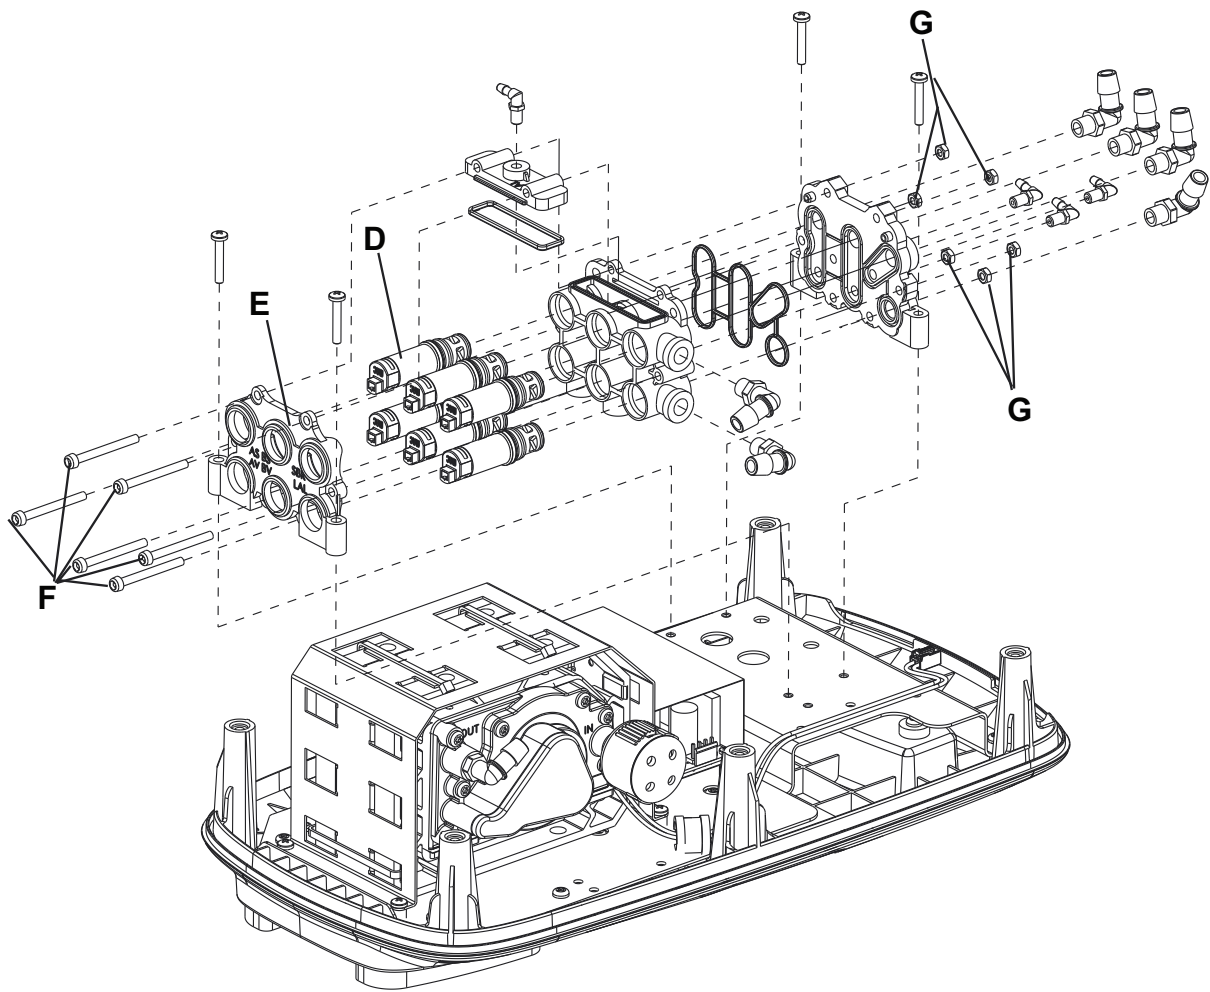

Figure 30 – Solenoid valve
2. Using a 3 mm hex driver, remove the six bolts (F) and nuts (G) that secure the six solenoid valves (D) to the pump manifold assembly (Figure 30). Each nut secures the pump manifold to keep the pump manifold from turning. Save the bolts and nuts.